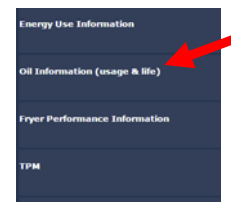

Figure 22
23. Clicking on Oil Information displays amount of Disposes, Cooks Per Dispose, Cooks Per lbs of Oil, lbs of oil per Dispose, lbs of oil used per day, Average Days Per Dispose (see Figure 22). Click on Choose Dispose Event pull down to show statistics based off after 1 dispose or more.